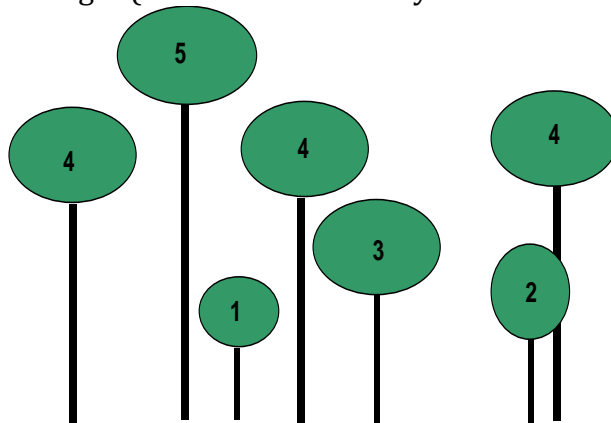

Figure 1. Examples of trees having different values of the crown illumination index.
5. Assess and record the crown illumination index (CII) of the tree. The different values are defined as follows (see Figure 1; note that lianas do not impact this illumination index). (This is entered in field "illumination" on data sheets.)